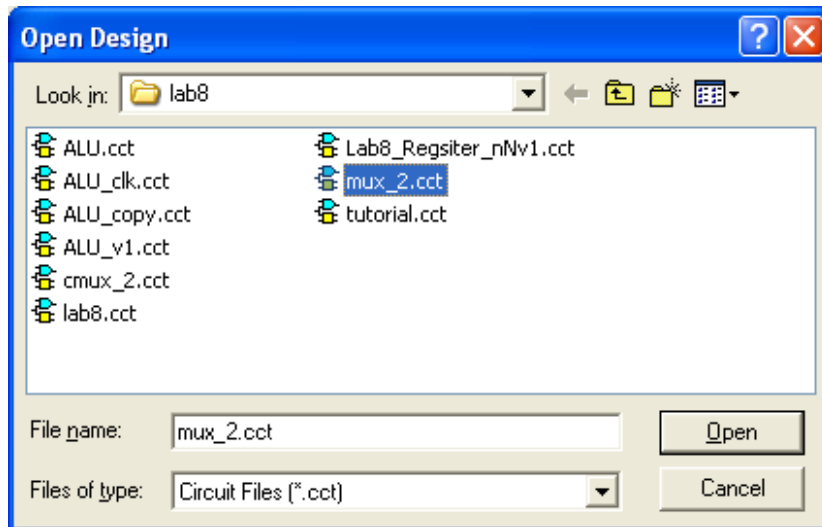

Figure 4
- k. Select "**mux_2.cct**". Click on the "Open" button (see Figures 4 and 5).